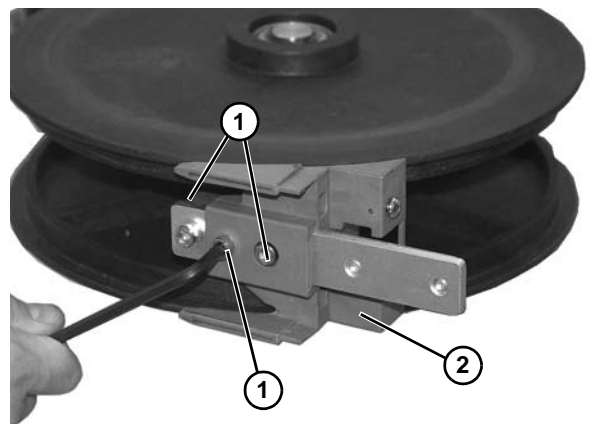

Figure 146
- Remove screw (Figure 146, item 1) on both sides of guard cover (Figure 146, item 2). Remove guard cover.
- Remove screws (Figure 146, item 1) from wheel guide (Figure 146, item 2).